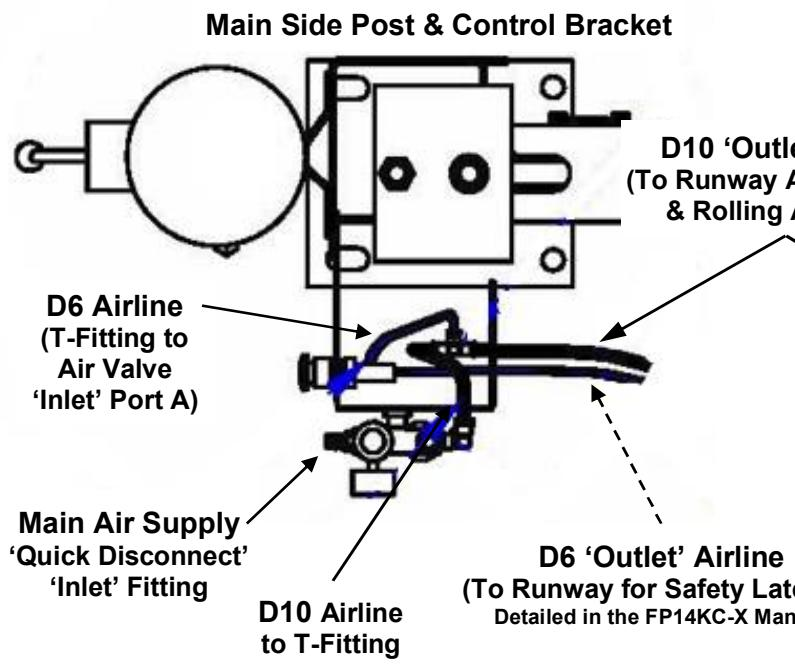

Fig. 4
5) Using D10 Airline & Air Fitting T-Connector Reducer (M10-M6), cut a 4+to 5+length and connect to outlet port on FRL, making sure to route through the hole in the Control Bracket. Connect the other end, routed through hole in Bracket to one of the (M10) T-Fitting push ends, **Figs. 4 & 5**.
6) Connect the previously disconnect D6 Airline end from the Air Inlet Fitting to the (M6) T-Fitting end that goes to the Air Inlet Valve Port **Fig. 4 & 5**.